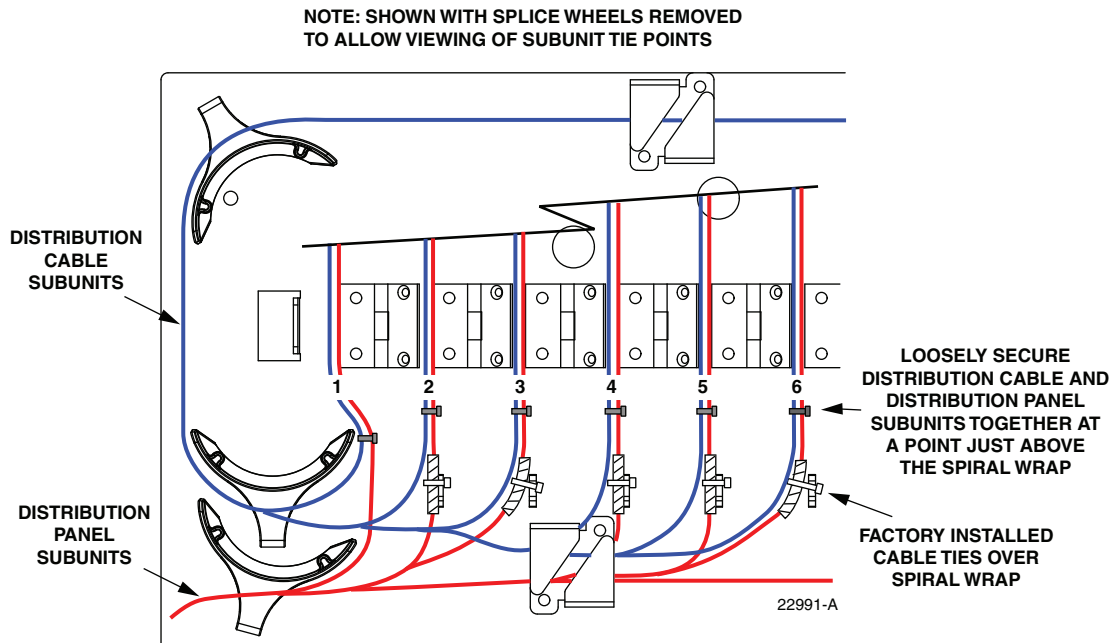

Figure 35. Securing the Distribution Cable Subunits
5. Use cable ties or lacing to **loosely** secure each distribution fiber subunit to the appropriate distribution panel subunit at a point just above the spiral wrap as shown in Figure 35.